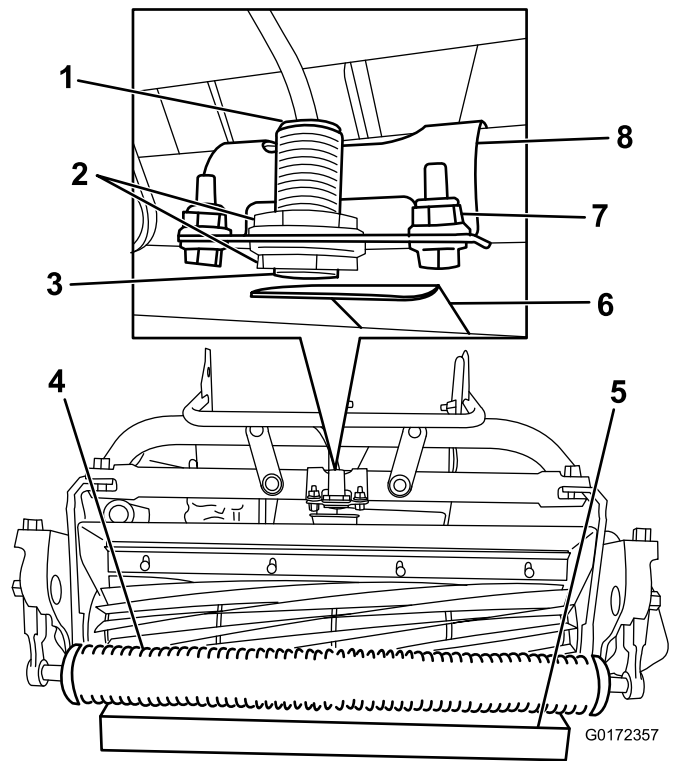

Figure 14
2. Loosen the jam nuts on the sensor and adjust the sensor so that 1 thread is visible past the lower jam nut (Figure 14).
4. Place a 3.8 cm (1-1/2 inches) block under the front cutting unit roller (Figure 14).
5. Loosen the fasteners securing the sensor bracket to the frame (Figure 14).
8. Rotate the sensor bracket toward the target plate until the light on top of the sensor illuminates (Figure 14). If it was already illuminated, rotate it away from the target plate until it goes out and then reverse direction just until it illuminates again.